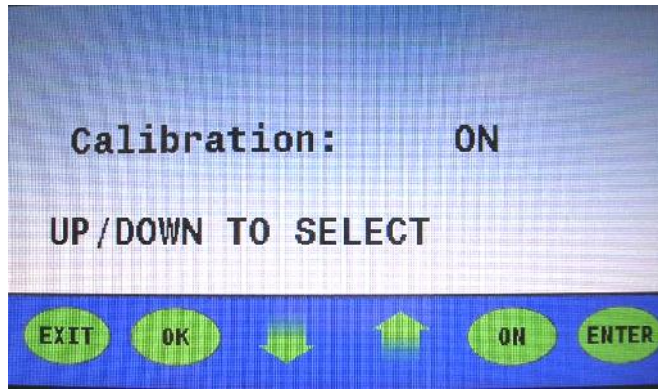

Figure 20
32. Press the up or down arrow to change "GAIN to "ON". (**Figure 20**)